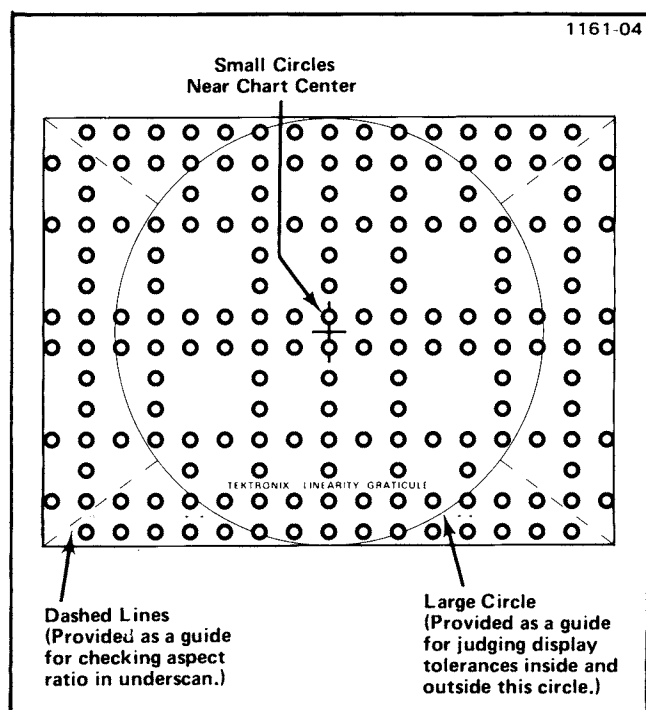

Fig. 2-3. Tektronix Linearity Graticule.
2. Linearity Graticule. Full screen film positive that is positioned directly over the viewing area (see Fig. 2-3). Tektronix Part No. 331-0305-00 for a graticule that is compatible with the NTSC and 60-Hz PAL Tektronix generators. Tektronix Part No. 331-0359-00 for a graticule that is compatible with the 50-Hz PAL Tektronix generators.
a. CHECK—After completing step 2, check that the crosshatch pattern intersections are located in the small circles projected on the screen. The tolerance is $\pm 1\%$ of picture height within the central area bounded by a circle whose diameter equals the picture height. This is the area within the large circle pointed out in Fig. 2-3. Outside of the central area, the tolerance is $\pm 2\%$ of picture height.